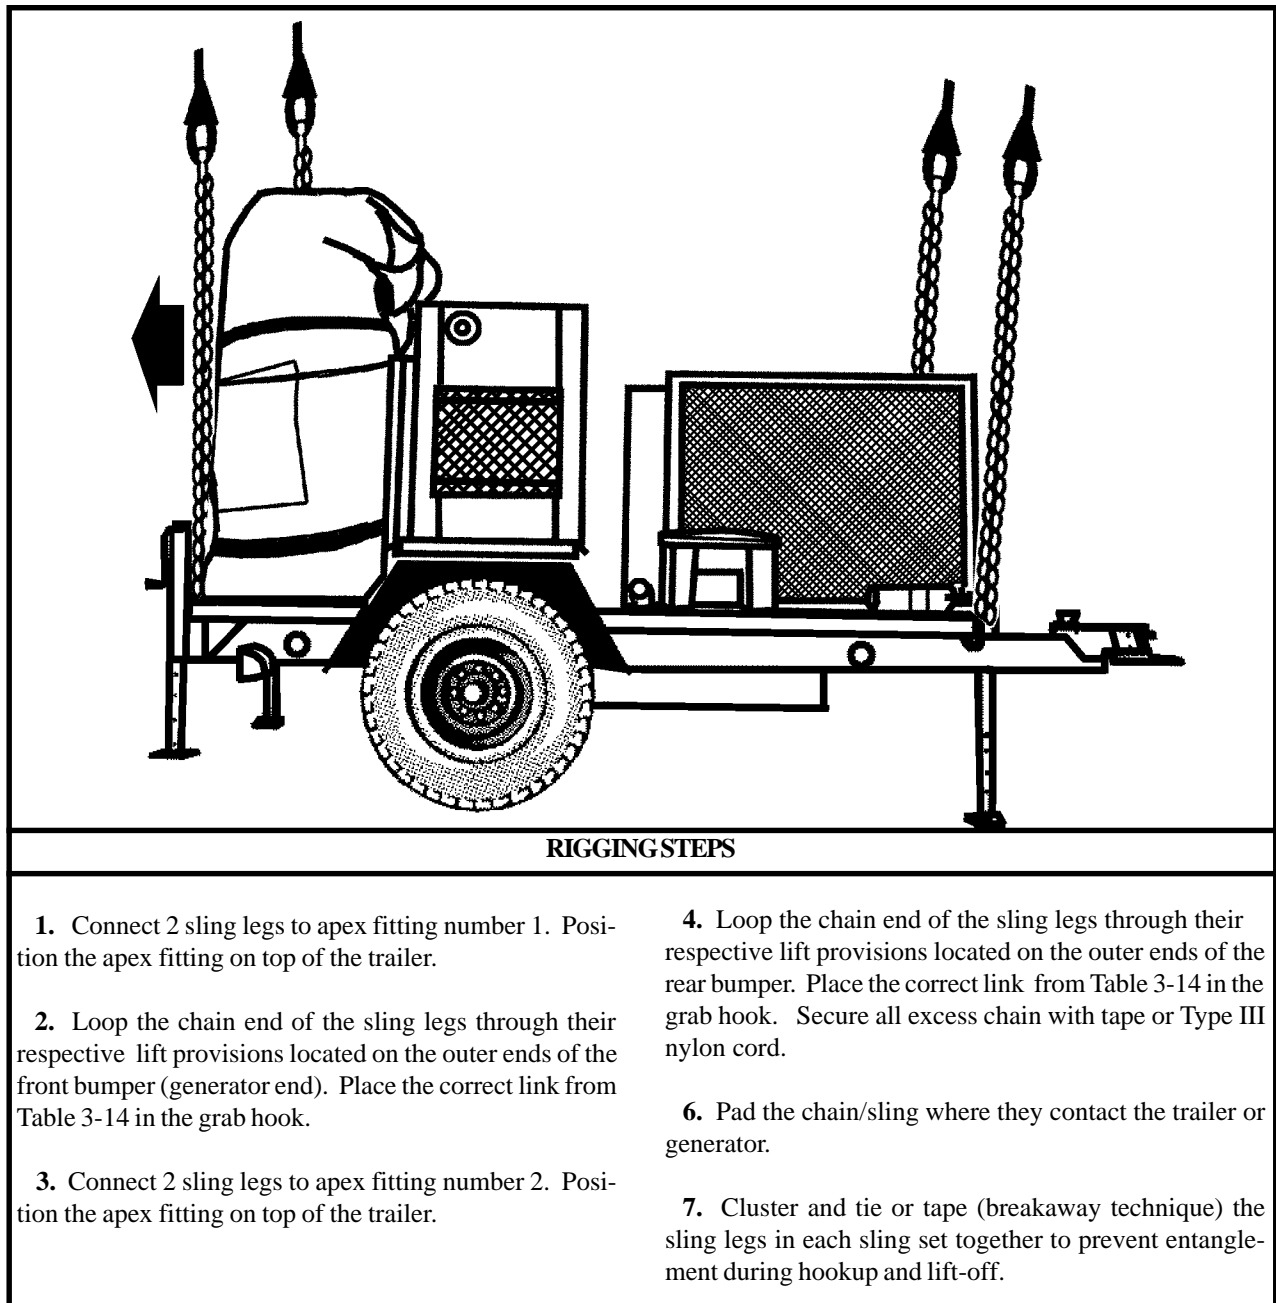

Figure 3-14. Deployable Print Production Center on COPS Trailer
(2) **Rigging.** Rig the load according to the steps in Figure 3-14.
(4) **Derigging.** Derigging is the reverse of the preparation and rigging procedures in steps d (1) and d (2).